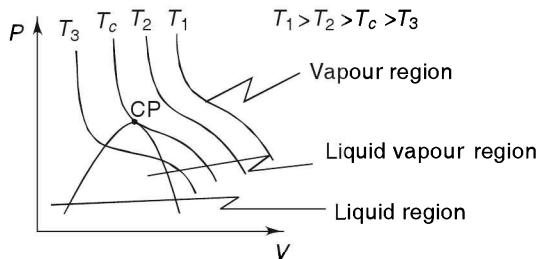

FIGURE 1.5 PV diagram.
If isothermal lines are drawn for $P\bar{v} = \bar{R}T$, we get curves which have maxima and minima (Figure 1.5). However, at critical point (CP) and above it, the maxima and minima on isothermal curves do not exist. A gas can be liquefied below the critical temperature (T_c). Above the critical point a gas cannot be liquefied by pressure. If the critical temperature is above room temperature, a gas is easily liquefied and stored. A domestic gas cylinder contains 14 kg LPG which is mainly butane gas. Butane can be liquefied at high pressures as its critical temperature is above room temperature. In a liquefied state, a small cylinder can hold sufficient gas. However, hydrogen can be kept in the liquefied state below critical temperature (-240°C). It is the best fuel and it is used in the liquid state in rockets. It requires either very large storage capacity at room temperature or economical cooling facility to keep it below the critical temperature before it can be used for automobiles.